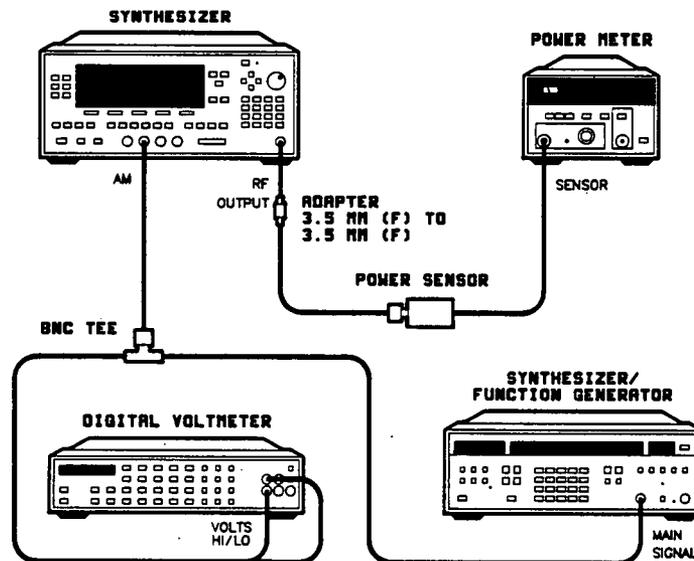

Figure 3-30. AM Accuracy Adjustment Setup
1. Turn on the instruments shown in figure 3-30 and let them warm up for at least one hour.
3. Connect the equipment as shown in figure 3-30.